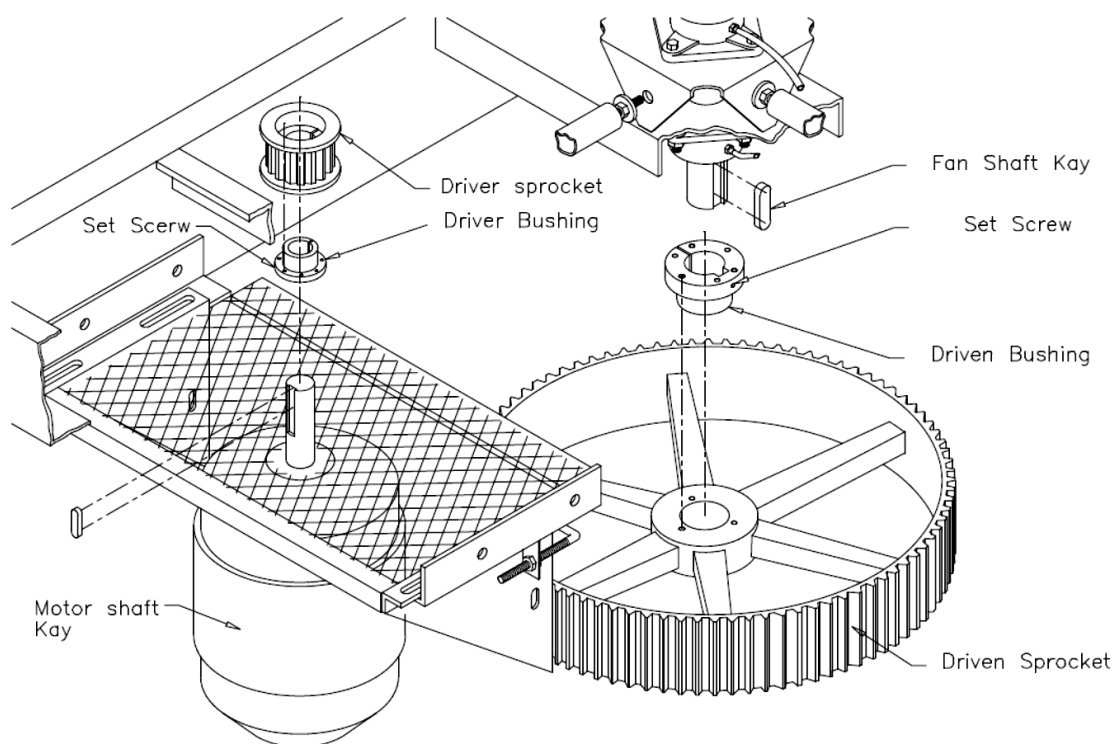

FIG. E2 – BUSHING AND SPROCKETS
3. Install either sprocket bushings (or sheave bushing, as required), with keys, onto shafts and tighten set screws over keys. See Fig. E2. See "DRIVE ASSEMBLY" section of the Parts List to set vertical location of large sprocket bushing.